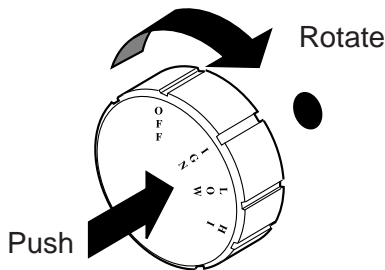

Figure 30 - IGN Position
6. From OFF position, push in gas control knob slightly and turn counterclockwise  to the IGN position. See *Figure 30*. Push in and hold control knob for 5 seconds.